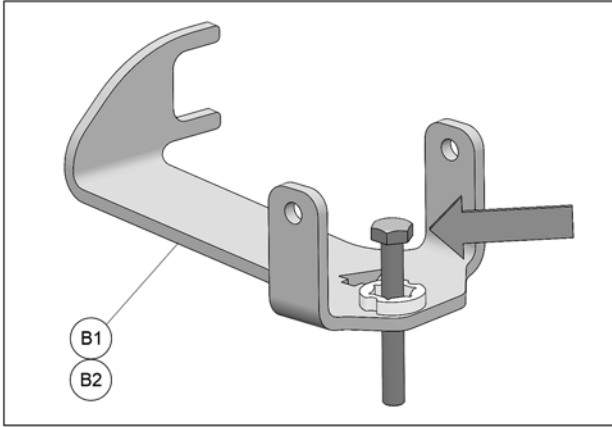

Fig. 4
4. Insert bolts just removed in rear anchor brackets (B1-B2), as shown in Fig. 4